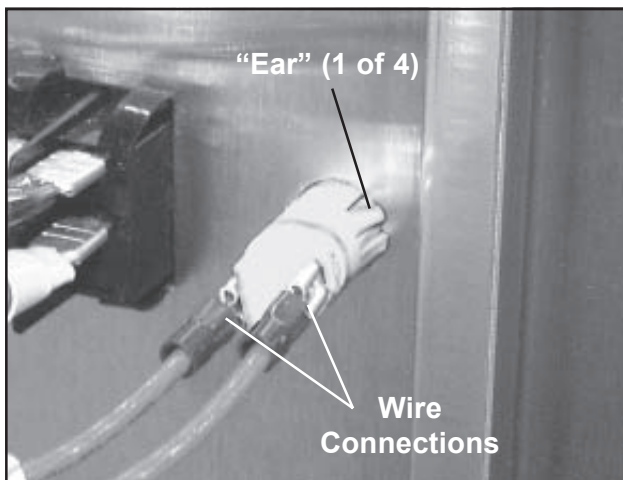

Figure 116. Inside View of System Light
4. Pull both wires off of the rear of the light (Figure 116).